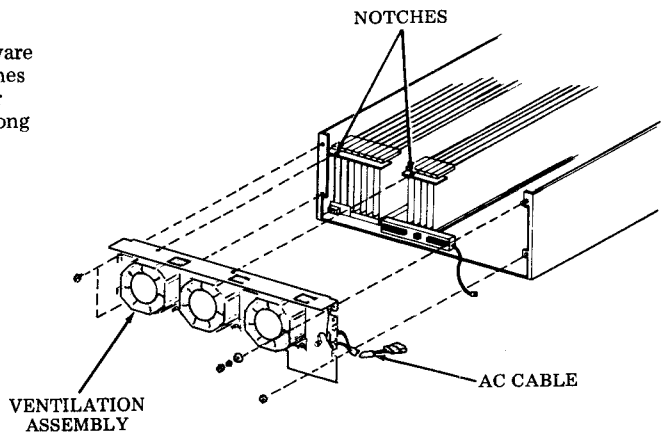

Fig. 54
- Step 13 — Install ventilation assembly on the frame using the hardware removed in Step 4. Use notches on logic frames as a guide for alignment. Route ac cable along the inside of frame (Fig. 54).